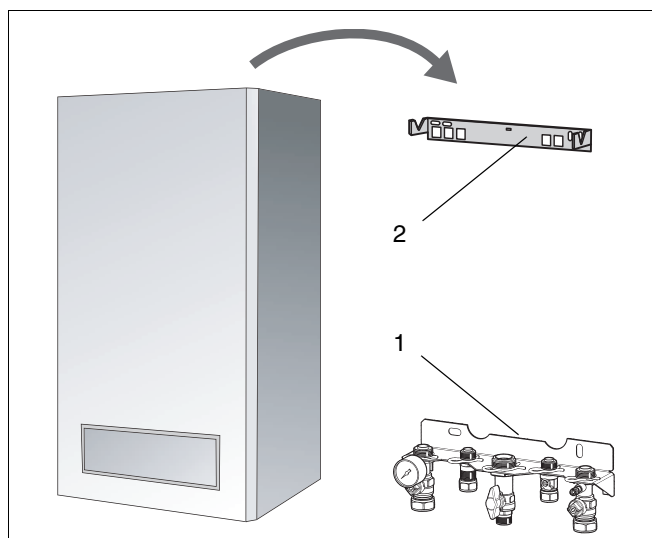

fig. 5 Installation
- Attach the manifold assembly (accessory) to the wall (fig. 5, item 1).
- Attach the wall bracket (fig. 5, item 2).
- Hang the condensing gas boiler onto the wall bracket (fig. 5).